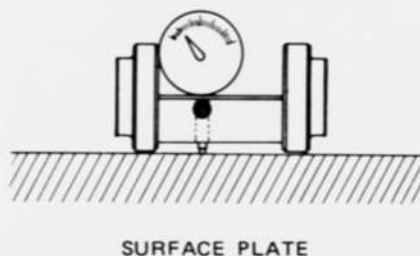

Fig. 16-21-2
- Rest dummy on surface plate, and set dial indicator to zero. See Fig. 16-21-2.